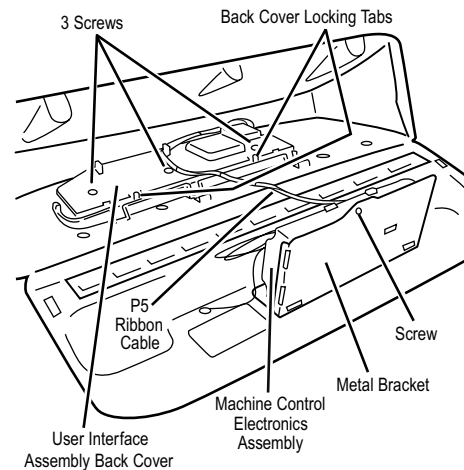

Figure 15. Locate the electronic assemblies.
There are two electronic assemblies; the user interface electronics, and the machine control electronics. See Figures 15 and 16.
4. Remove the one screw holding the machine control assembly to the metal bracket. See Figure 15.
3. Remove the wire connections from the user interface assembly, including the P5 ribbon cable. See Figure 15.
5. The user interface assembly is held to the console insert panel by three screws and two locking tabs. After the screws are removed, lift each of the locking tabs to remove the back cover of the user interface assembly. See Figure 15.